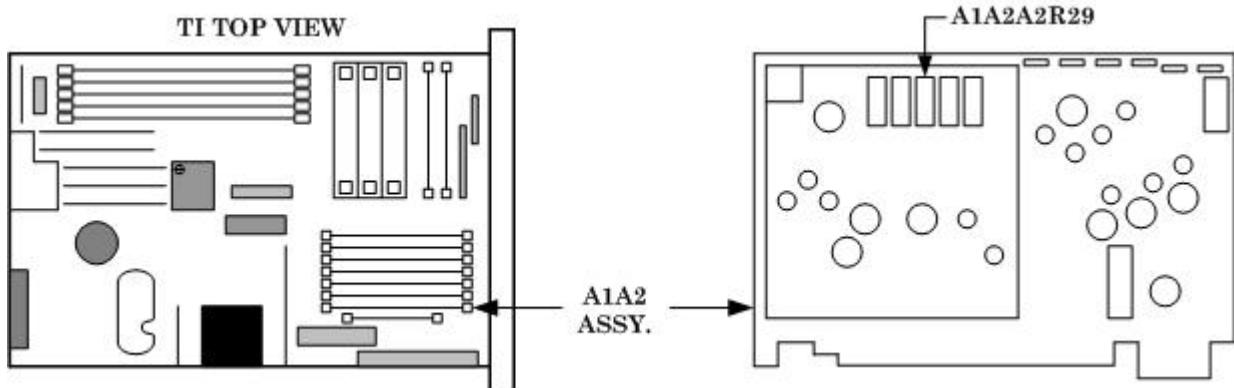
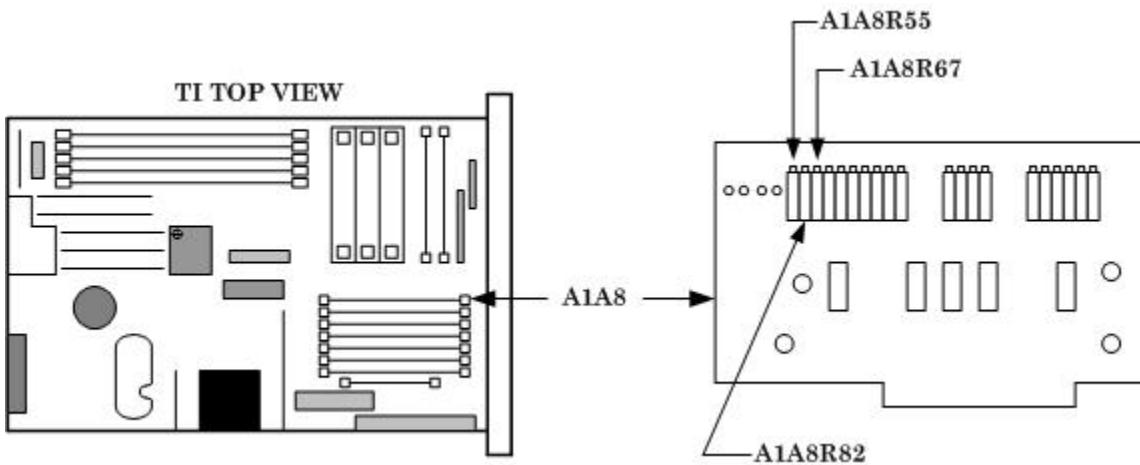

Figure 7. A1A2 board.
Figure 8. A1A8 board.
- (6) Press TI **RCL 1**.
- (7) Adjust A1A2A2R29 (fig. 7) for a measuring receiver indication of -3.0 dBm (R).
- (8) Using **TUNE KNOB**, tune the test instrument from 2 to 6.6 GHz. Record minimum and maximum measuring receiver indications and frequencies where they occur.
- (9) Adjust A1A8R55 (fig. 8) to reduce the difference between minimum/maximum power indications (R).
- (10) Using **TUNE KNOB**, tune the test instrument to 2 GHz.
- (11) Readjust A1A2A2R29 (fig. 7) for a measuring receiver indication of 3.0 dBm.
- (12) Tune the test instrument from 2 to 6.6 GHz. Verify that the output level stays within ± 1 dB of -3 dBm.
- (13) Repeat (8) through (12) above until level stays within 1 dB of -3 dBm or until no further improvement can be made.
- (14) Press **TI RCL 2**.
- (15) Using **TUNE KNOB**, tune the test instrument from 6.600002 to 12.99902 GHz. Record minimum and maximum measuring receiver indications and frequencies where they occur.
- (16) Adjust A1A8R82 (fig 8) to minimize difference between minimum and maximum power indications (R).
- (17) Press **TI SWEEP MODE OFF, FREQ INCR, 2, 0, 0, and MHz** keys.
- (18) Verify the measuring receiver indicates -3 dBm ± 0.2 dBm. Readjust A1A2A2R29 (fig. 7) as necessary for best compromise.
- (19) Using **TUNE KNOB**, tune the test instrument from 2 to 12.2 GHz. Verify that the difference between the minimum and maximum power indications are equal to or less than 3 dB.
- (20) Press **TI RCL** and **3** keys.
(21) Using **TUNE KNOB**, tune the test instrument from 12.300003 to 17.5999901 GHz. Record minimum and maximum measuring receiver indications and frequencies where they occur.
(22) Adjust A1A8R67 (fig. 8) to minimize difference between minimum and maximum power indications (R).
(23) Press TI **SWEEP MODE OFF**, **FREQUENCY, 2**, and **GHz** keys.
(24) Adjust A1A2A2R29 (fig. 7) for a measuring receiver indication of -3.0 dBm.